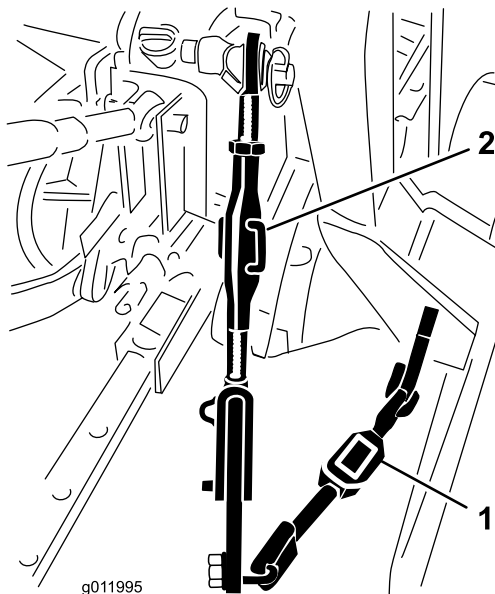

Figure 7
1. Adjust the lower links inboard until they contact the blower mounting plates (Figure 7). This will reduce the stress on the pins. If the tractor has sway chains instead of sway links, it is recommended that washers be installed between the lower link arm and lynch pin to reduce the over hung load on the lift pins.